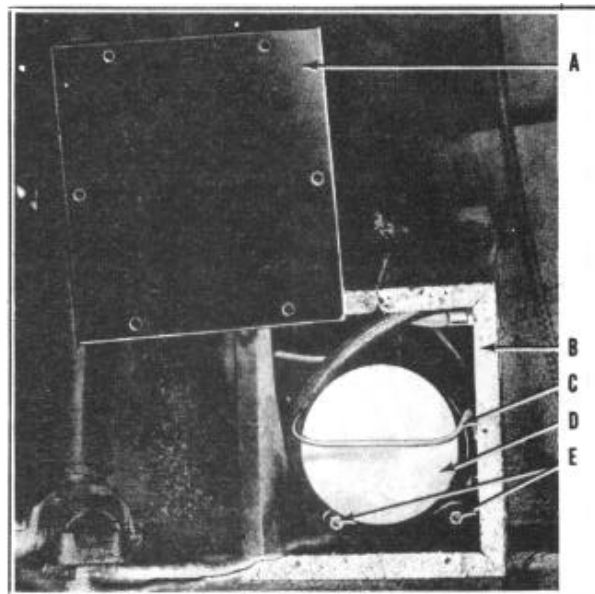

FIGURE 142
To remove hydraulic fluid, raise the car on a hoist and remove cover plate (A) from the bottom of the well containing the Motor and Hydraulic Pump Assembly. See Figure 142. Remove the reservoir bail (C) and the reservoir (D), and empty the contents into a clean dust-free container.
1. After all fluid has been completely removed from the hydraulic system and while the car is still raised on the hoist, remove the two nuts (E), Figure 142, and lockwashers from the lower motor and pump assembly support.